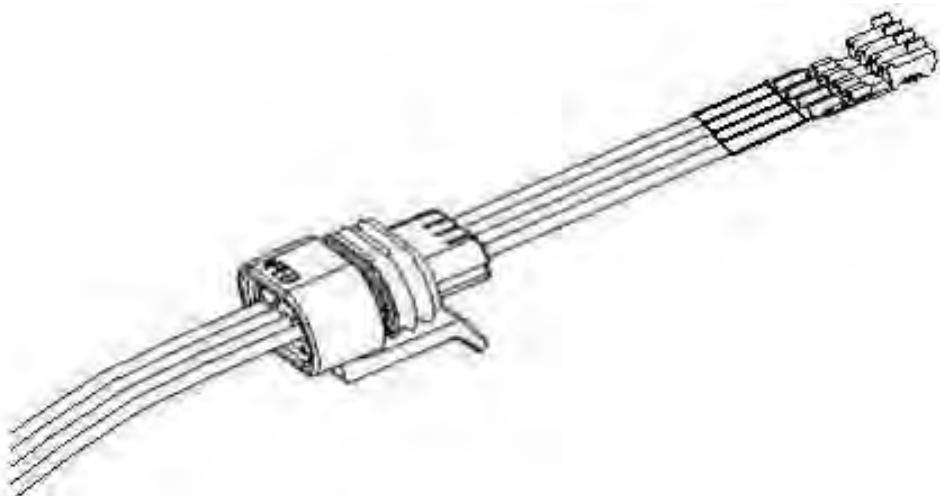

Figure 64
l. Position heat shrink, if installed in Step f, behind contacts installed in previous step and shrink using a heat gun as shown in Figure 64.